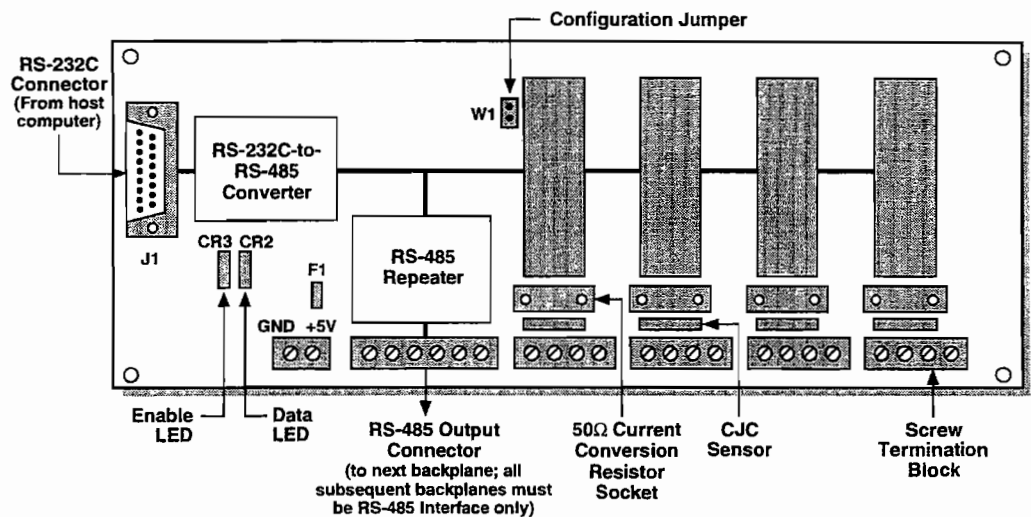

Figure 1-7. 6BP04-2 Backplane
- **6BP04-2 Backplane** - The 6BP04-2 backplane, shown in Figure 1-7, is a 4-channel backplane. It has an RS-485 output connector for connecting to the next 6B Series backplane or 6B50 digital I/O board in a network and an RS-232C connector for connecting to a host computer. It also has an RS-232C-to-RS-485 converter that allows the 6B modules to communicate with the host, and an RS-485 repeater that allows the backplane to be connected to another backplane or board at a distance of up to 4000 feet.